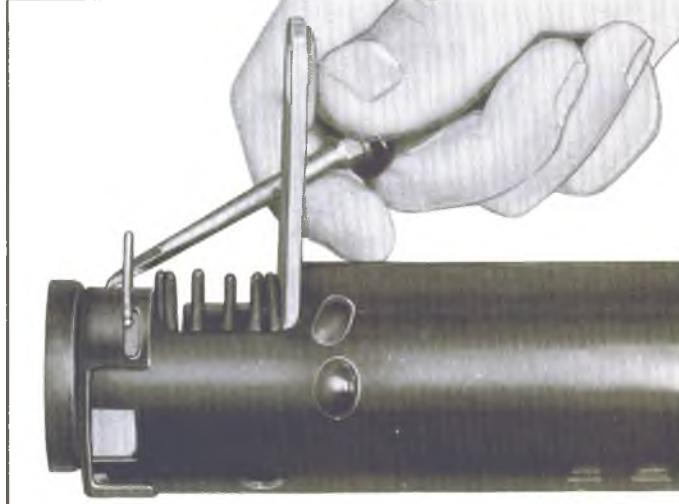

Fig. 69—Removing Lower Bearing Retainer
14. Remove the lower bearing retainer clip (fig. 69).